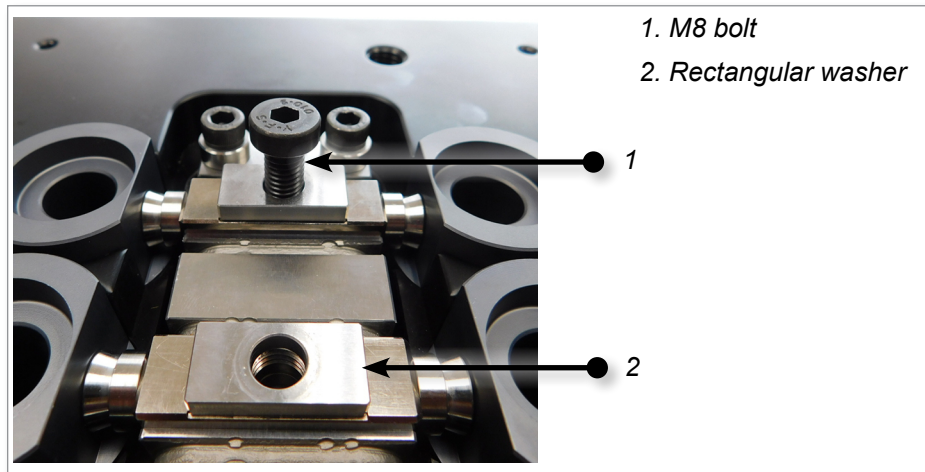

Figure 5-104 Install rectangular washer and bolt
2. Insert the rectangular washer and the M8 bolt onto the melt block. Tighten bolt at 27 Nm (20 ft.lbs). See Figure 5-104.